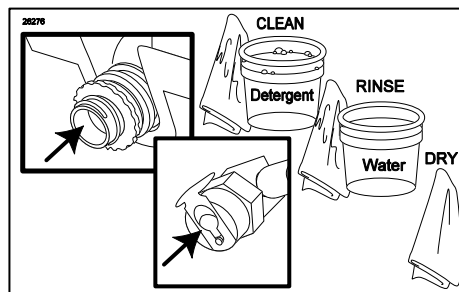

Figure 64
13. Brush and clean the outer surfaces of the syrup bag fitment and the Connector with detergent water, and a single service towel. Then rinse and dry the parts using clean water and single service towels. (See Figure 64.)